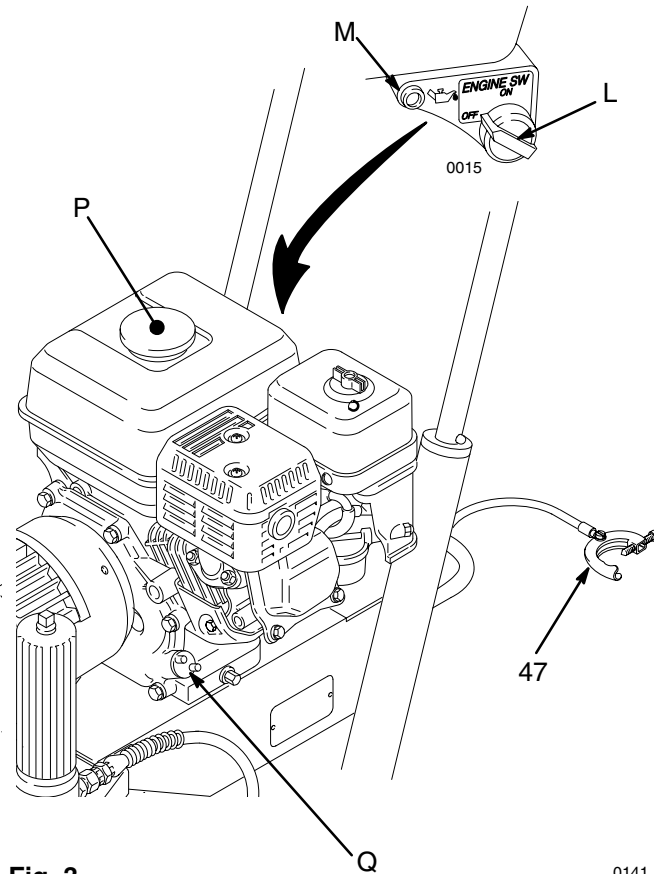

Fig. 3
4. **Check the engine oil level.** Refer to the Honda engine manual, supplied. This is a summary of the information: Remove one of the oil fill plugs; the oil should be almost overflowing. See Fig. 3. Add oil as necessary.